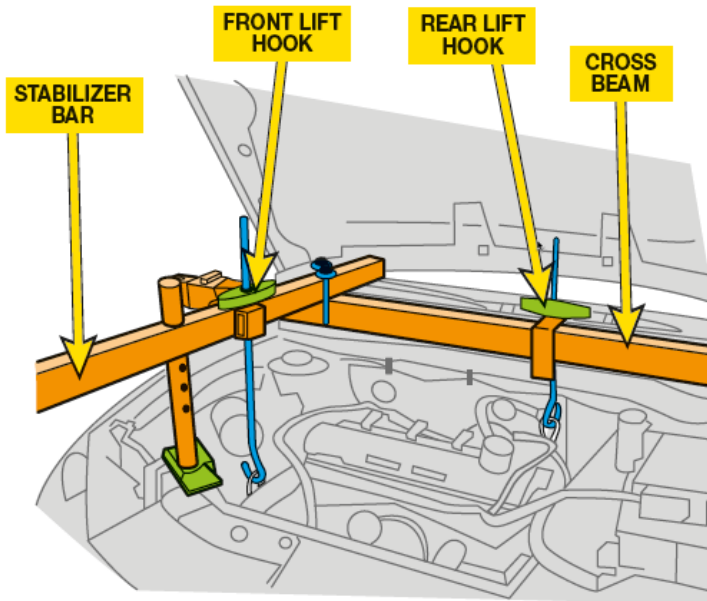

Figure 2. Engine support tool for FWD vehicles.
STEP 6 On FWD vehicles, support the engine before disconnecting transaxle. Figure 2.